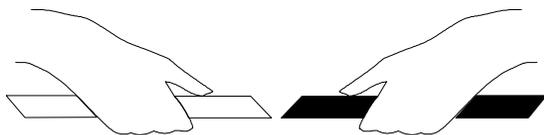

Figure 1
3. Assemble tubing straightener by interlocking alternate black and yellow tubes (Figure 1). Adjust tubing straightener length by equally forcing one black tube inside one yellow tube. Twist the tubes in opposite directions to lock into place. (Maximum tubing straightener height must not exceed 33" (.8 m) fully assembled.)